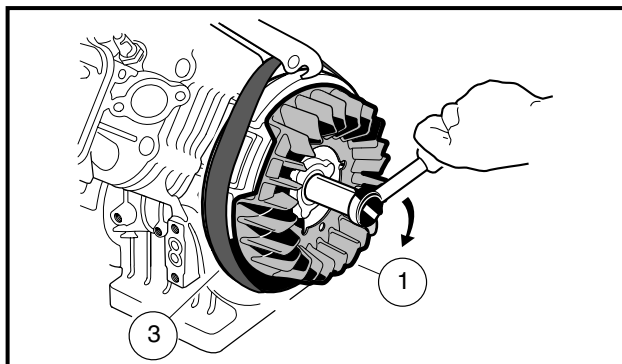

Figure 2-99 Fan and Flywheel Assembly
3. Use a strap wrench (3) to keep the flywheel and fan assembly (1) from turning while tightening the flywheel nut to 63 ft-lb (85.4 N·m) (**Figure 2-99, Page 2-43**). **See following CAUTION.**